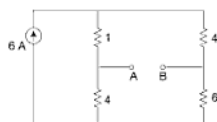

Fig. A2-6
8. The Thevenin's equivalent across AB in the Fig. A2-6 is given by